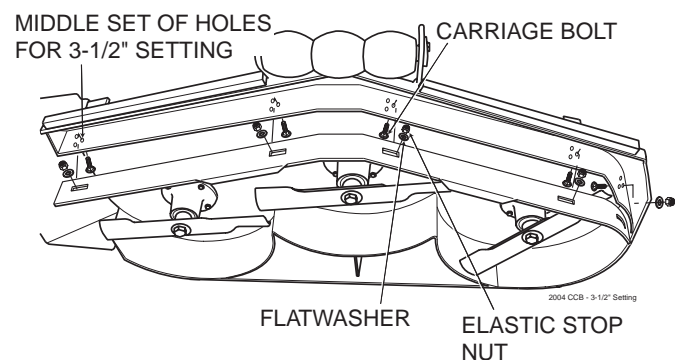

Figure 6-10. 3-1/2" Custom-Cut Baffle Position
- B. 3-1/2" Position - baffle is installed using the middle set of holes on the front baffle welded inside the cutter deck. (See Figure 6.10). Can be used for general purpose cutting. Placing the Custom-Cut Baffle in the 3-1/2" position gives a good mix of cutting performance in all types of grass.